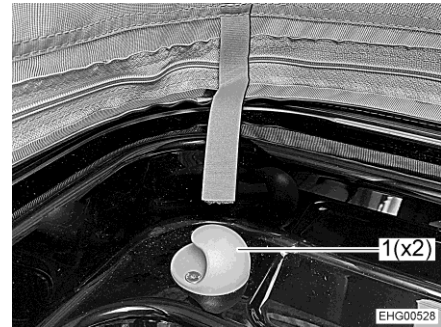

Fig. 53 Holder
- Attach the safety net to the two holders (Fig. 53,1).